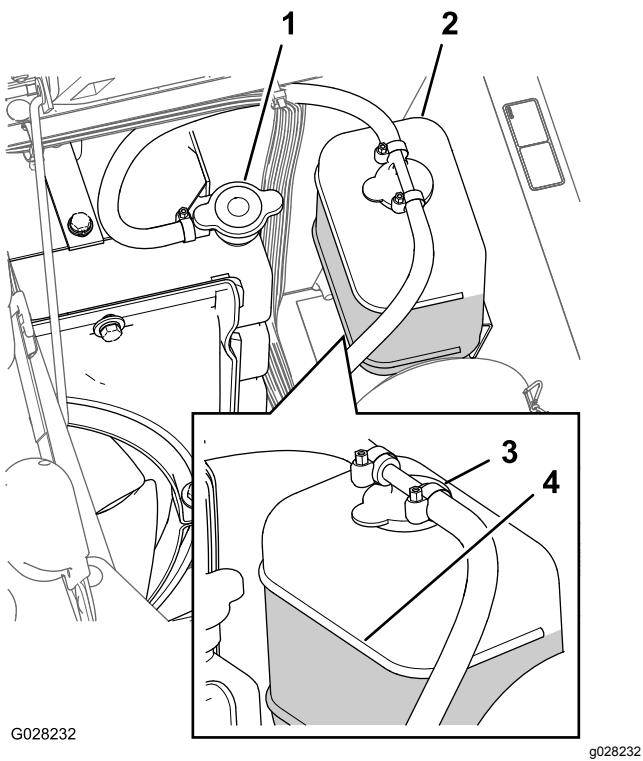

Figure 92
3. Carefully remove the radiator cap and the expansion-tank cap (Figure 92).
**Note:** The radiator should be filled to the top of the filler neck and the expansion tank filled to the Full mark on the tank (Figure 92).
5. If the coolant level is low, remove the expansion-tank cap and the radiator cap, and fill the expansion tank to the Full mark and the radiator to the top of the filler neck (Figure 92).
6. Install the radiator cap and the expansion-tank cap (Figure 92).
2. Wait until the engine is cool, then remove the radiator cap (Figure 92).
6. Remove the radiator cap (Figure 92).
8. Start the engine with the cap loose on the radiator (Figure 92).
10. Once the coolant has warmed up, top off the coolant level to the sealing surface of the cap and tighten the cap (Figure 92).
11. Open the expansion-tank cap and fill the tank with coolant to the Cold level (Figure 92).